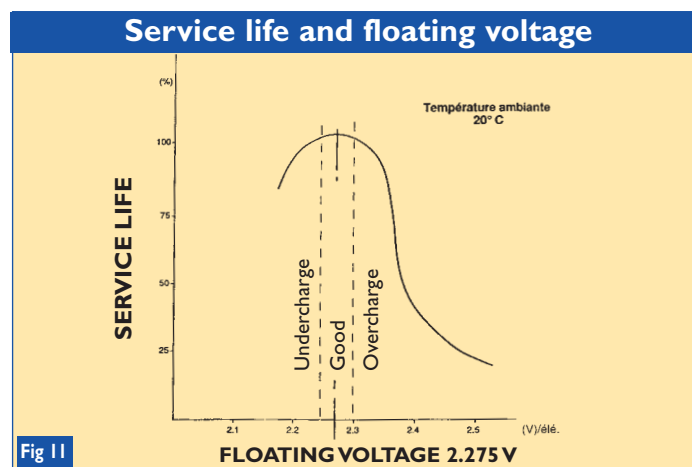

Fig 11
- floating voltage (see fig.11).